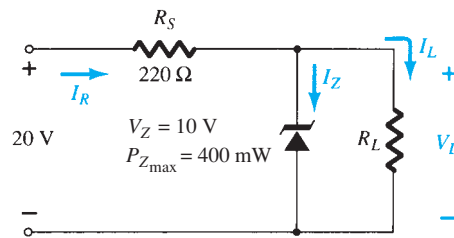

FIG. 2.186
- *42. a. Determine V_L , I_L , I_Z , and I_R for the network of Fig. 2.186 if $R_L = 180\ \Omega$.